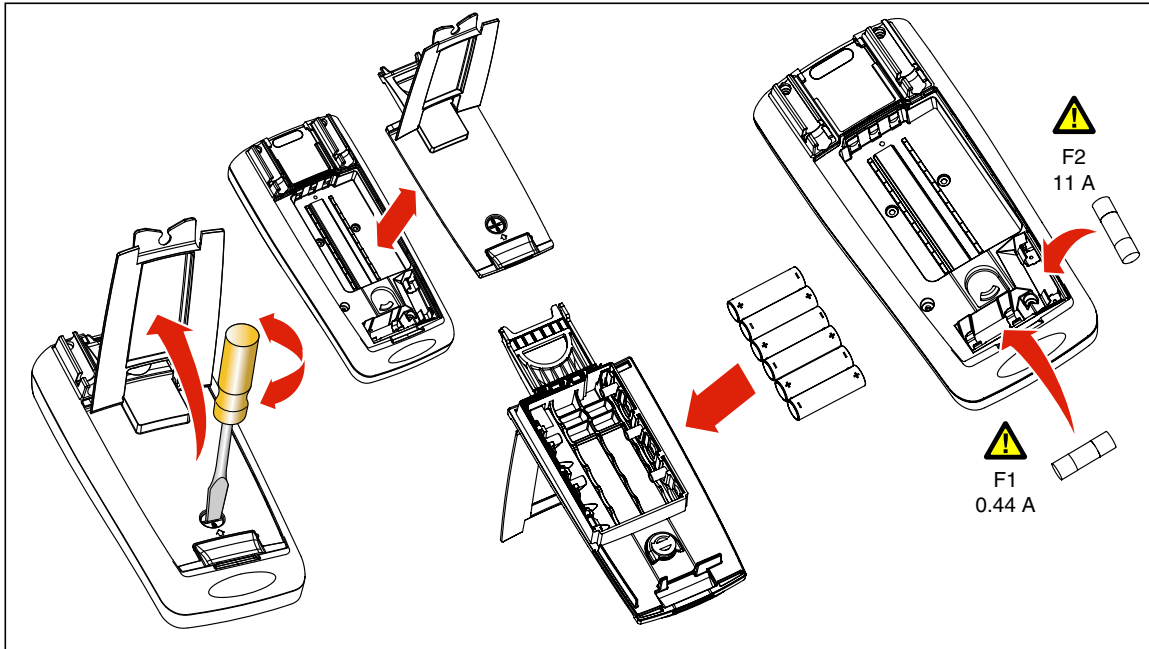

Figure 2. Battery and Fuse Replacement
3. Lift up on the bottom of the battery pack and slide down to remove as shown in Figure 2.
To replace the fuses, refer to Figure 2 and do the following:
To replace the batteries, refer to Figure 2 and do the following: